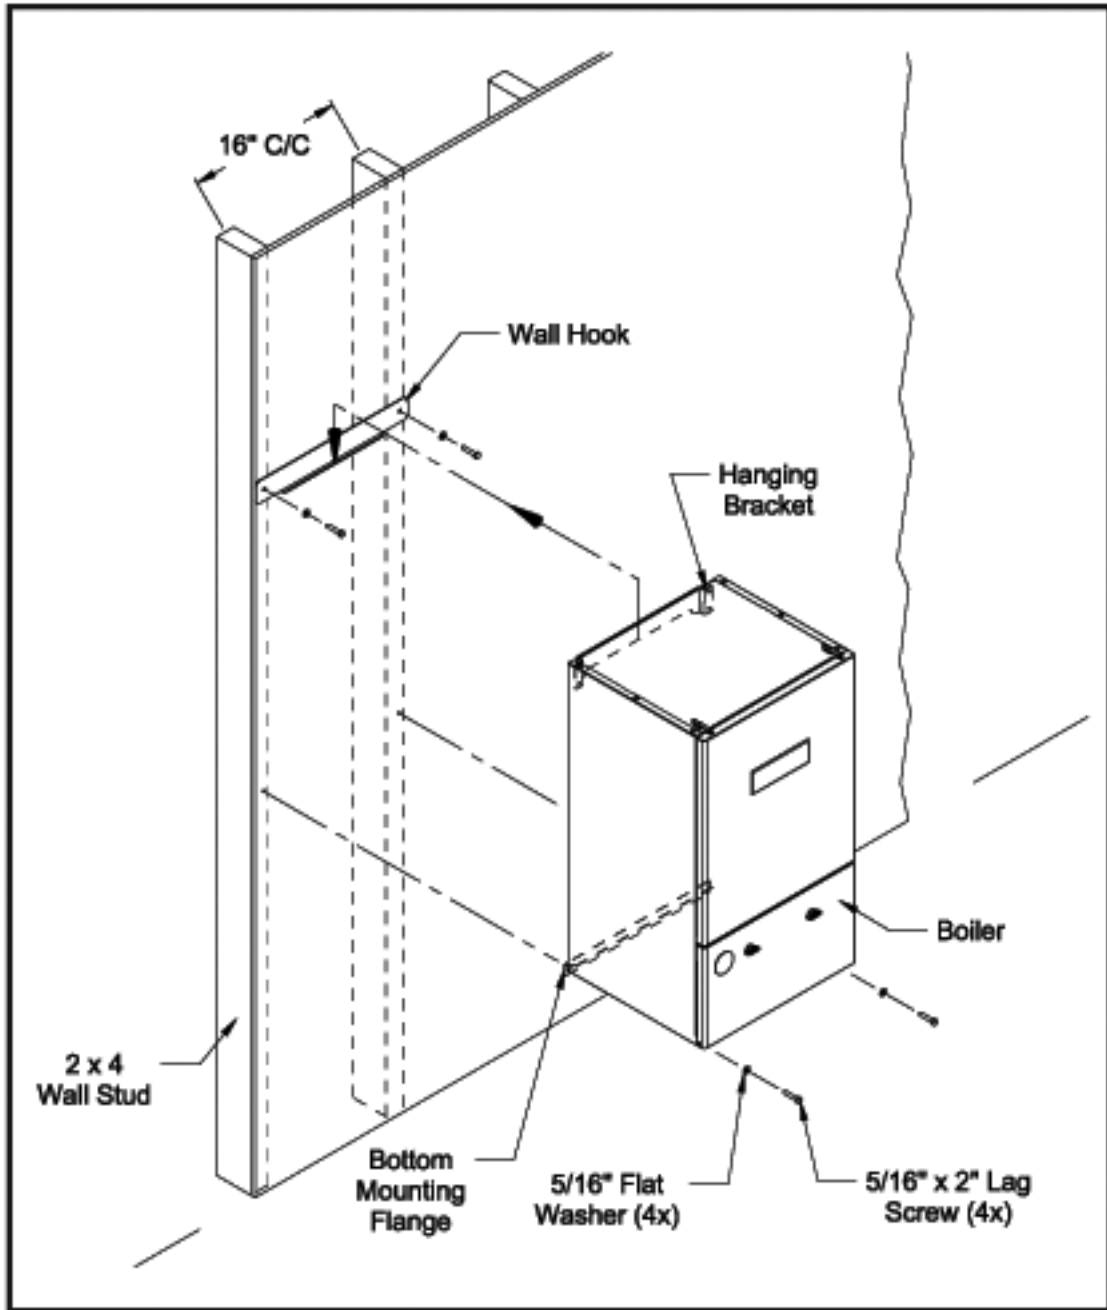

Figure 5.2 Boiler Mounting/Hardware
- 7) Attach the wall hanging hook using the 5/16" x 2" lag screws and washers, or other suitable anchors as appropriate (Figure 5.2). Make sure the hook is level.
- 8) Hang the boiler on the wall hook as shown in figure 5.2.
- 9) If not already done in Step (4) locate and drill holes "C" and "D" using the ob-round slots in the bottom mounting flange. Secure the bottom flange to the wall using the 5/16" x 2" lag screws, or other fasteners as appropriate (figure 5.2).